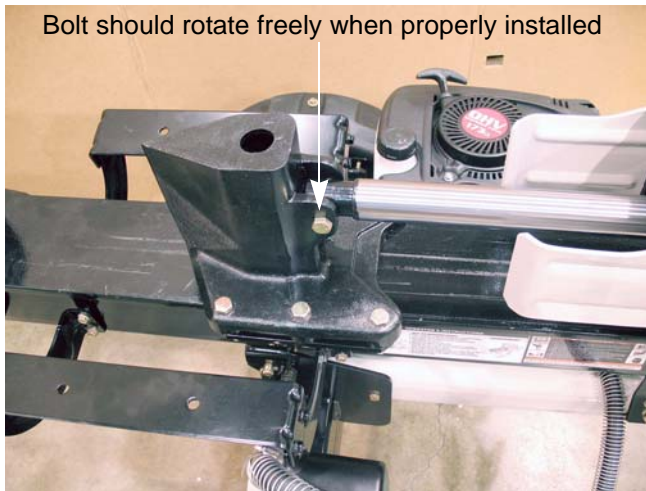

Figure 6.1
2. Remove the nut and bolt that attach the wedge to the ram using a pair of 3/4" wrenches. See Figure 6.1.